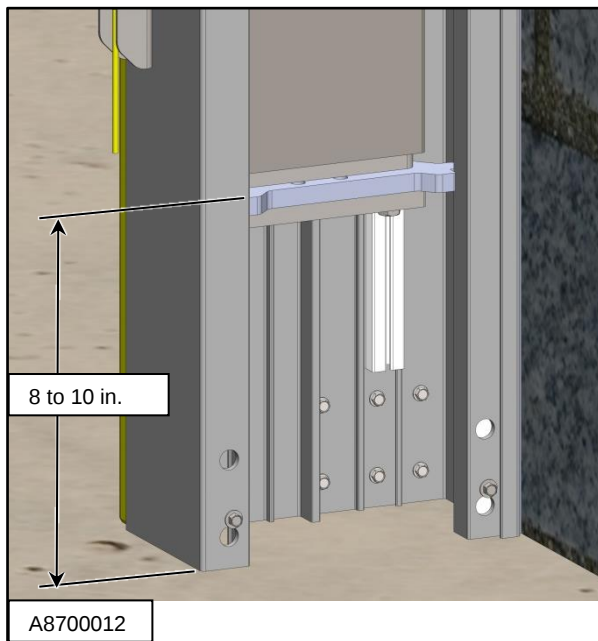

Figure 47
5. Securely block the counterweight in the position shown in Figure 47.